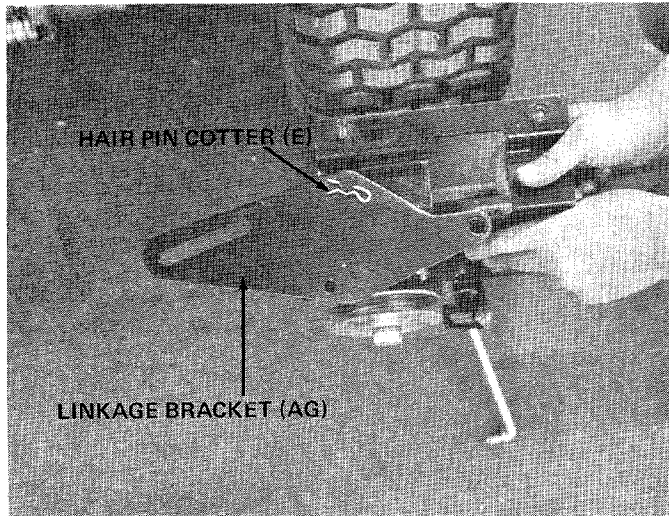

FIGURE 14
12. Pre-assemble the linkage bracket (AG) to the idler assembly (AJ), as shown in figure 14. Secure with hair pin cotter (E). NOTE: Slot in linkage bracket goes to the rear.